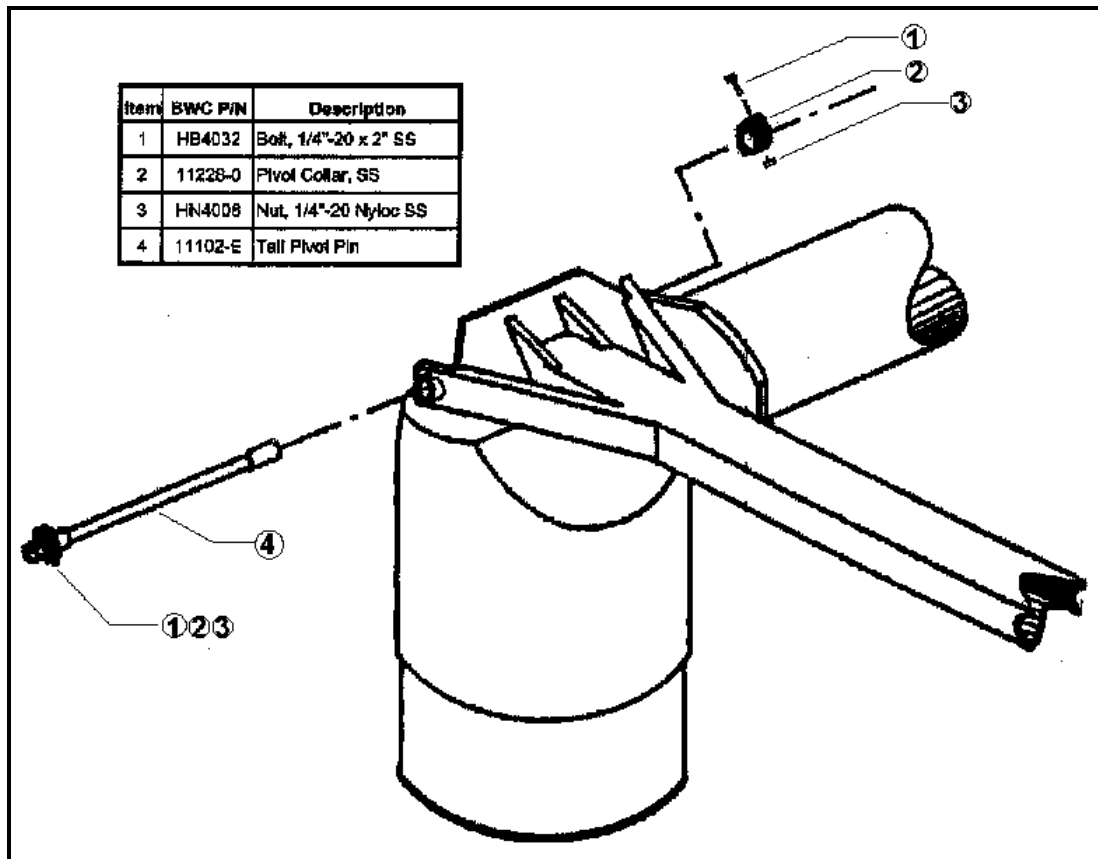

Figure 21. Excel Tail boom and Pivot pin
- d. Hold the tail boom in a position so the end with the fin is angled up ~ 15° and align the tail bushings with those of the powerhead, then insert the tail pivot pin as shown in **Figure 21**. The pin may need tapping through, but keep in mind that the stainless steel pin is very soft and can be easily damaged. Use a block of wood or rubber mallet on the pin.